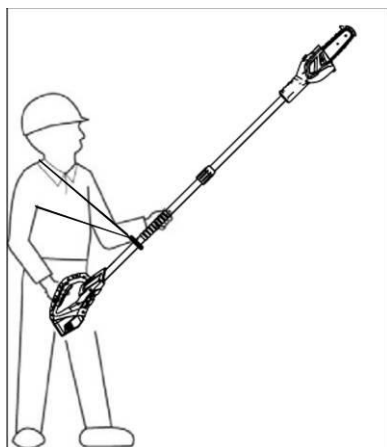

Fig.12
3. Use both hands to grip pole saw. Use designated grip areas and strap when operating pole saw. (See Fig.12)